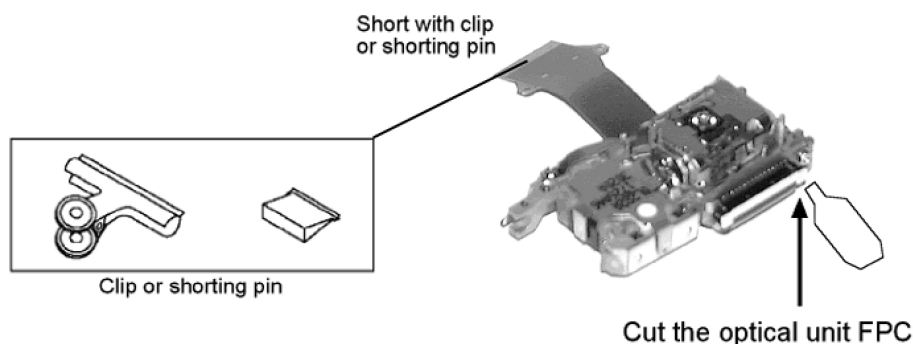

Fig. 8.1
2. Short-circuit the flexible cable of optical pickup remove from the circuit board using a short-circuit pin or clip in order to prevent laser diode from electrostatic destruction (Refer to Fig. 8.1 and Fig. 8.2)
3. Do not handle flexible cables forcibly as this may cause snapping. Handle the parts carefully (Refer to Fig. 8.1)
4. A new optical pickup is equipped with an anti-static flexible cable. After replacing and connecting to the flexible board, cut the anti-static flexible cable. (Refer to Fig. 8.1)